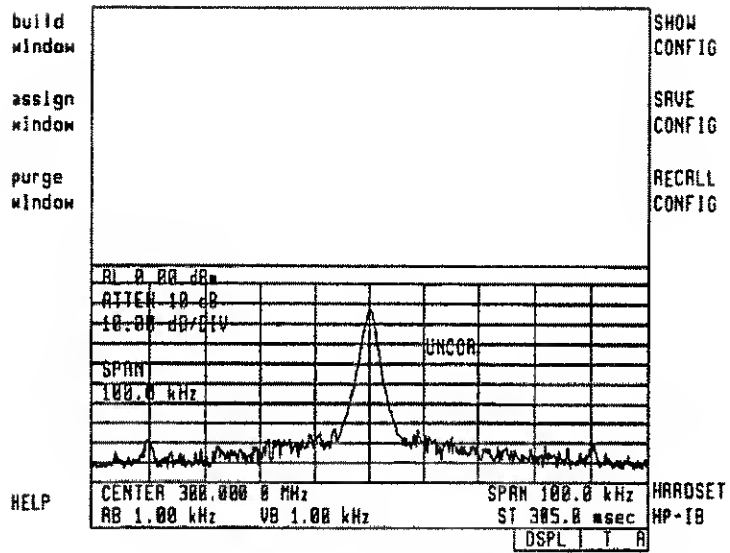

Figure 2-40. Recall Configuration
1. Configure a screen with multiple windows, as in Figure 2-40. See the **build window** example.